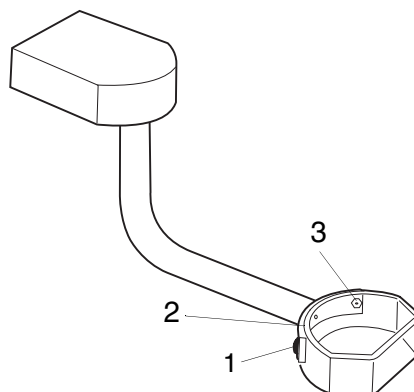

Fig. 4
1. Loosen the two screws (1/Fig. 4) and remove the plastic tray.
2. Fit the new gasket (2/Fig. 4) (clear spot only).
3. Fit the new plastic tray with new screws and washers. For clear spot fit the threaded bushings (3/Fig. 4).